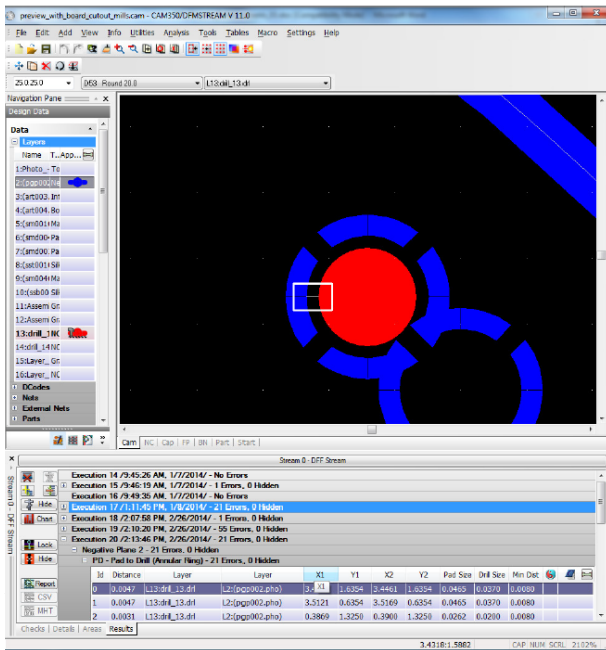

Abbildung 8: Negative Plane - Annular Ring
- Annular Ring Checks (Abb. 8)